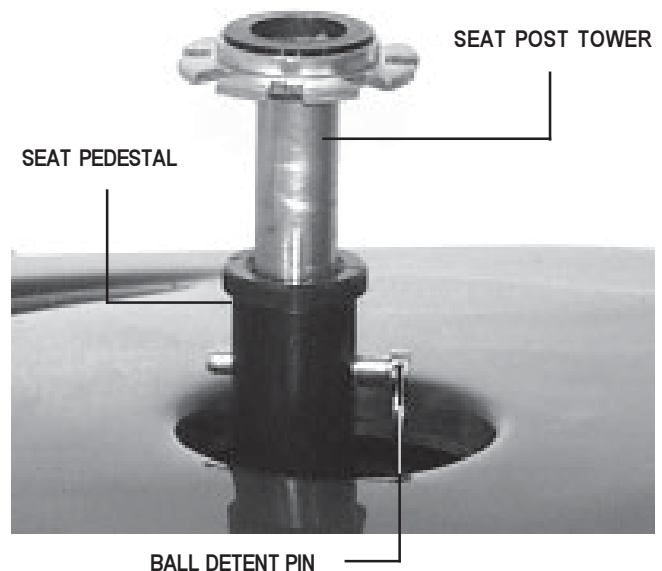

Figure 9. Seat Height Adjustment
2. Use the attached ring to pull and remove the ball detent pin from the seat pedestal. See figure 9.